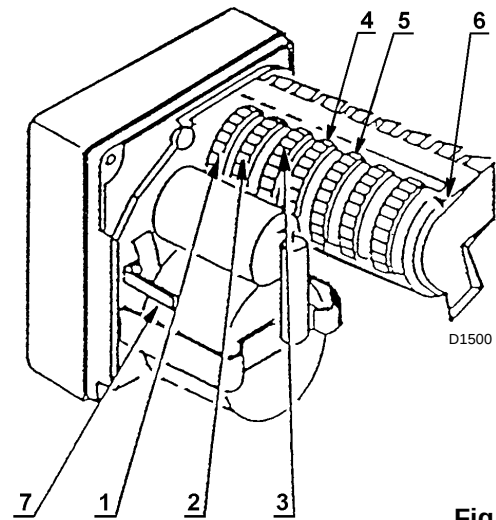

Fig. 17
- 2 Check that the eccentricity of the oil cam is sufficient for a run of approx. 8 mm for the oil modulator shaft. Normally, with an 8 mm run for the shaft, the pressure variation required for modulating the output from minimum to maximum is obtained. To carry out this control, manually turn the cam after releasing the servomotor using the lever 7)(Fig. 17), so that the shaft run is not excessive or insufficient. When the control is terminated, remember to block the servomotor.